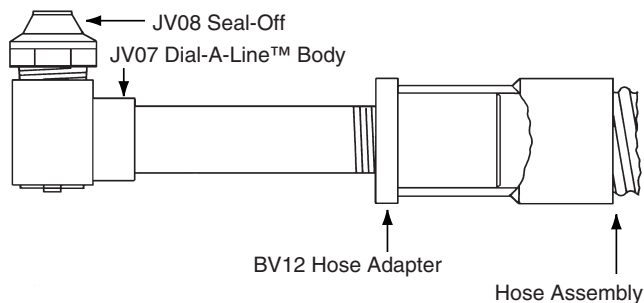

Figure 20. Blowing a line in the conduit
2. Insert the BV12 hose adapter in the other end of the hose. Screw the handle end of the JV07 Dial-A-Line™ body into the hose adapter. Select either the JV08 or JV09 seal-off and screw it into the JV07. See Figures 20, 21 and 22.